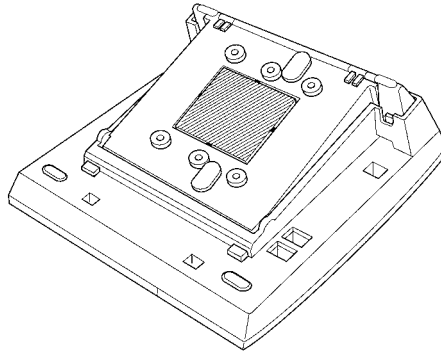

Figure 6-17: Removing the Knockout
4. Remove the shaded base plate knockout shown on *Figure 6-17: Removing the Knockout*